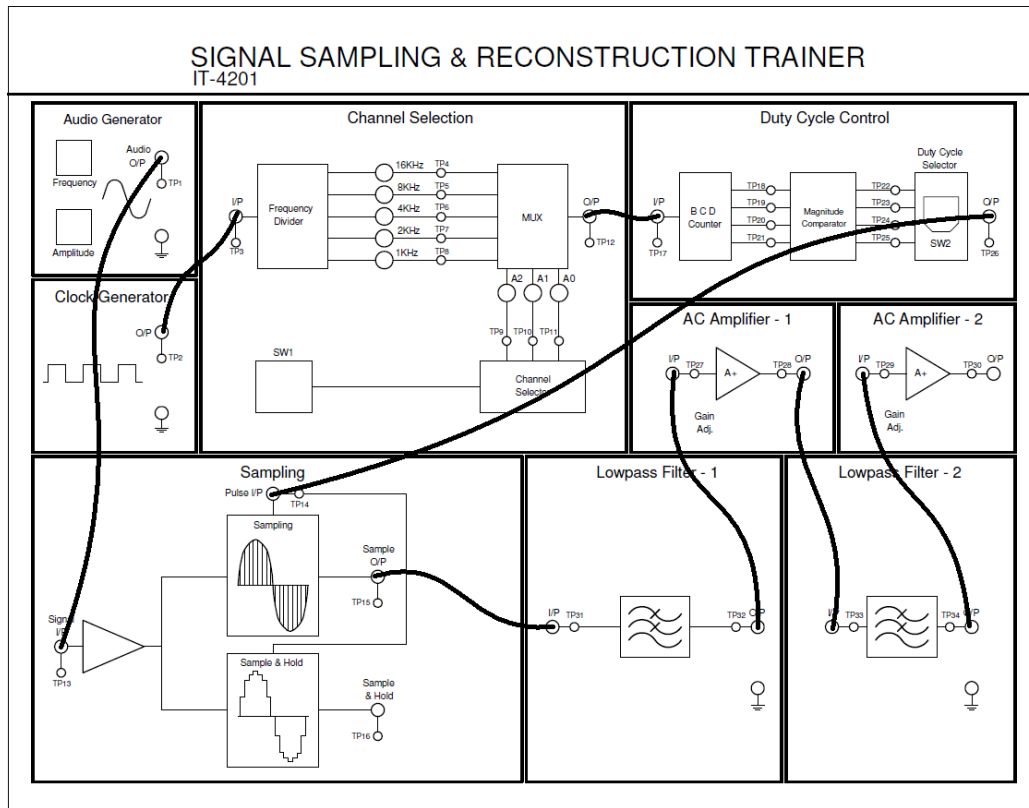

Fig. A.1: Experimental Setup
5. Make connections using 2mm patch cords as shown in Fig. A.1.